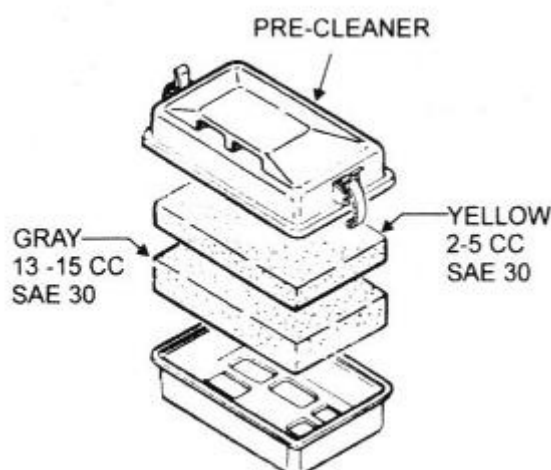

Figure 12 Optional Pre-Cleaner
- Remove the element from the pre-cleaner (Figure 12) at the top of the crankcase (body side) and clean it with cleaning oil (kerosene).